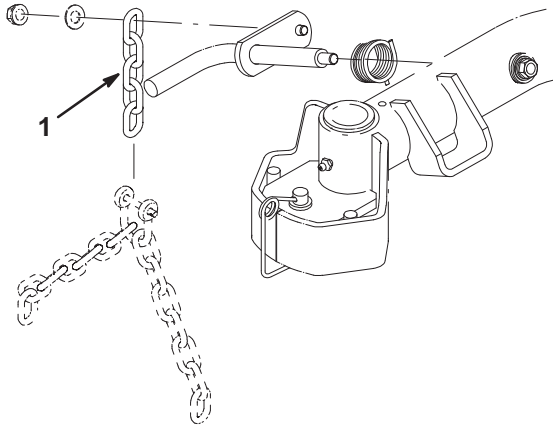

Figure 16
1. Remove chain and install new 5 link chain as shown in figure 16.